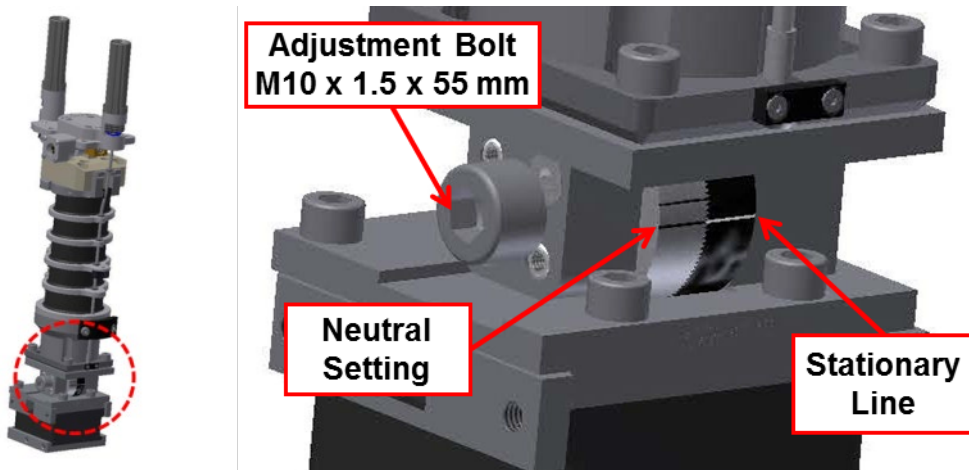
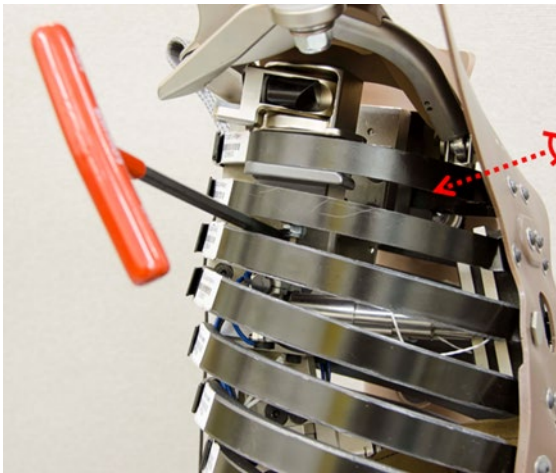
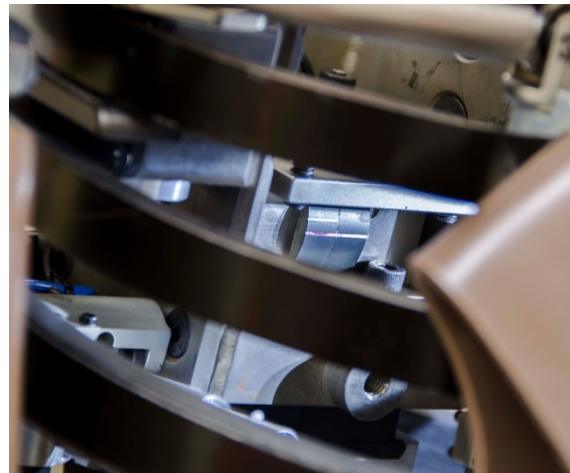

Figure 4-52. Neck pitch change assembly (472-3630) posture setting. Diagram shows neck in “neutral” position.
Figure 4-53. Access to the neck pitch change mechanism through the upper thoracic spinebox.
Figure 4-54. View of neck pitch change joint scribe lines through ribcage
The neck pitch change mechanism connects the lower neck load cell to the upper thoracic spinebox (472-3620). It allows adjustment of the angle of the base of the neck in 3° increments. There are two scribe lines marked on the right sprocket, which rotates with the neck, and one scribe line setting marked on left sprocket, which is fixed to the upper thoracic spine. To achieve a neutral setting, align the fixed scribe line with the inferior scribe line on the right sprocket, as shown in Figure 4-52. The default posture is the neutral setting, which most closely resembles the Anthropometry of Motor Vehicle Occupants (AMVO)⁴ seated posture for a 50th percentile male occupant.
- 4.3.2.2 Locate the M10 x 1.5 x 55 mm SHCS on the right side of the upper thoracic spine, as indicated in Figure 4-52. With the dummy fully assembled, the SHCS can be accessed by inserting an M10 T-handle between ribs #2 and #3, through the access hole in the upper thoracic spinebox, and into the head of the adjustment bolt (Figure 4-53 and Figure 4-54).
- 4.3.2.4 Manipulate the neck to achieve the desired posture setting. Set the default position (“neutral” as shown in Figure 4-52 right and Figure 4-54) by aligning the lower/inferior scribe line on the sprocket attached to the neck with the scribe line on the fixed sprocket. With the dummy fully-assembled, the scribed lines can be viewed by looking between ribs #1 and #2 from the front of the dummy (see direction indicated in Figure 4-53 and expected view in Figure 4-54).